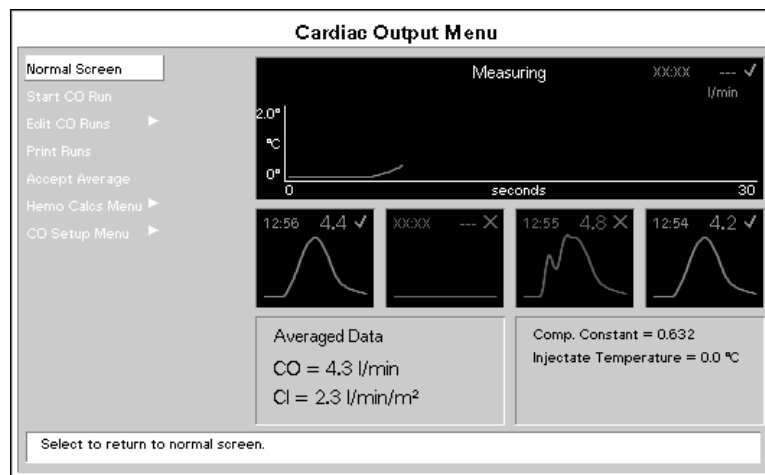

FIGURE 2-59 Cardiac Output Menu
7. Open the **Cardiac Output Menu** (shown in FIGURE 2-59) in one of the following three ways: